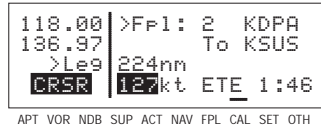

Figure 5-7
5. Select your estimated ground-speed for the trip. As you change it, the estimated time en route (ETE) calculation will be updated (figure 5-7).